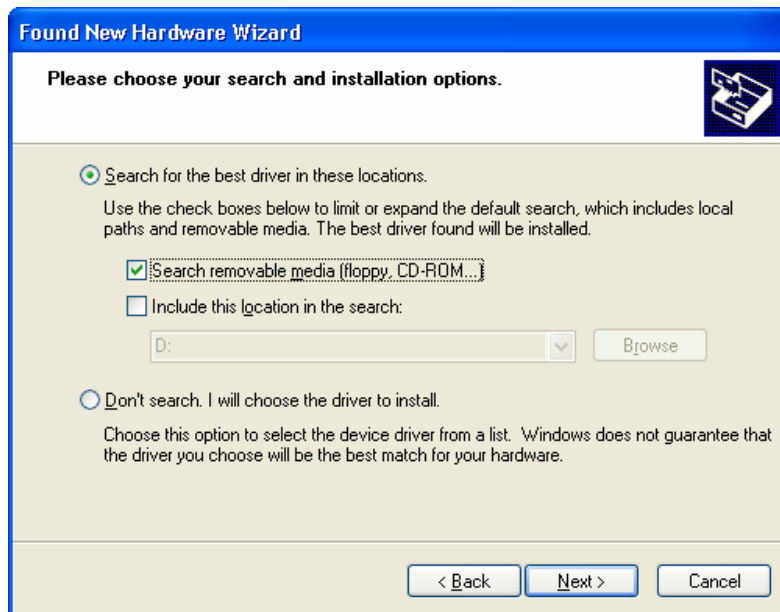

Figure 23. Found New Hardware Wizard Window #3
7. At the “Found New Hardware Wizard” window (Figure 23), select “Search for the best driver in these locations” followed by “Search removable media (floppy, CD-ROM...)”. Click Next.